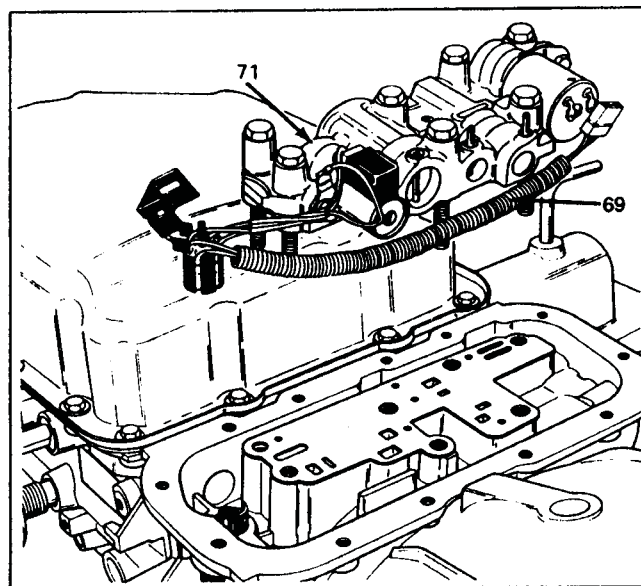

Figure 7
11. Remove the adapter case valve body and wiring harness (See Figure 7).